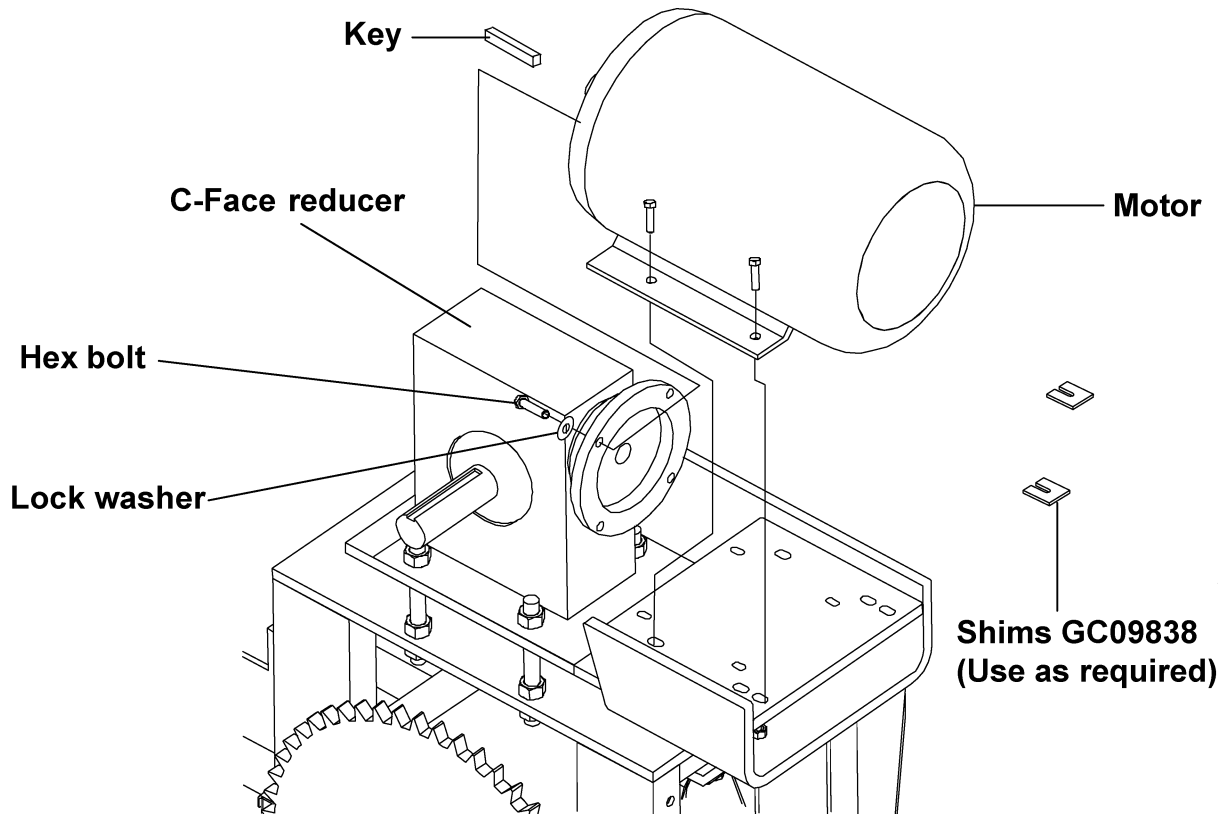

Figure 5P
A. Bolt the C-Face motor to the reducer using hex bolts, lock washers and a key. (See Figure 5P.)
- Assemble the Bottom Chain Guard Trap to the Bottom Chain Guard Weldment using 1/2" x 3" HHCS bolts, 1/2" split lock washers, and 1/2" hex nuts. (See Figure 5P.)